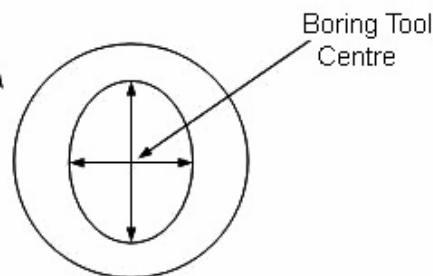

Figure 3: Hole Centre Datum
3. Centre the axis of the boring tool on the top and bottom and side walls of the hole to be reclaimed, approximately halfway through the depth of the hole. See Figure 3.